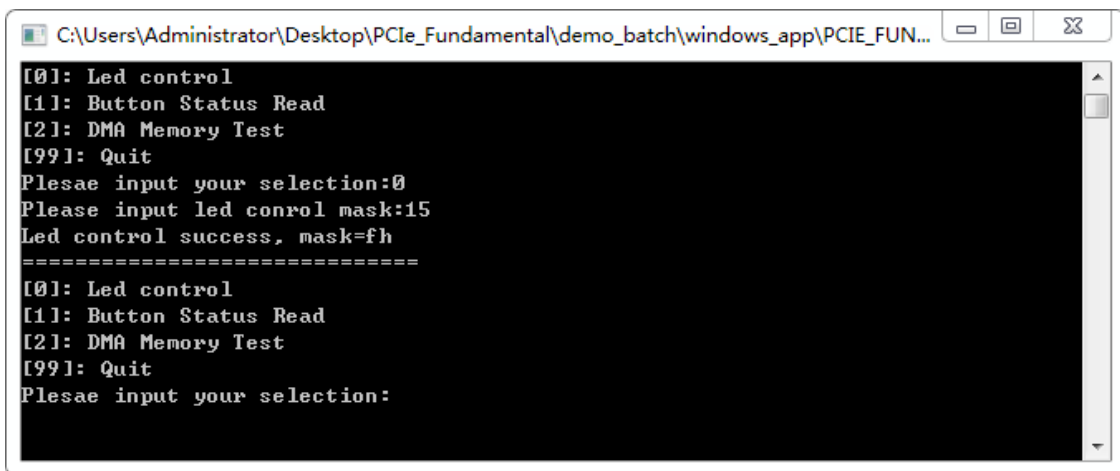

Figure 7-13 Screenshot of LED Control
7. Type 0 followed by a ENTER key to select Led Control item, then input 15 (hex 0x0f) will make all led on as shown in Figure 7-13. If input 0(hex 0x00), all led will be turned off.